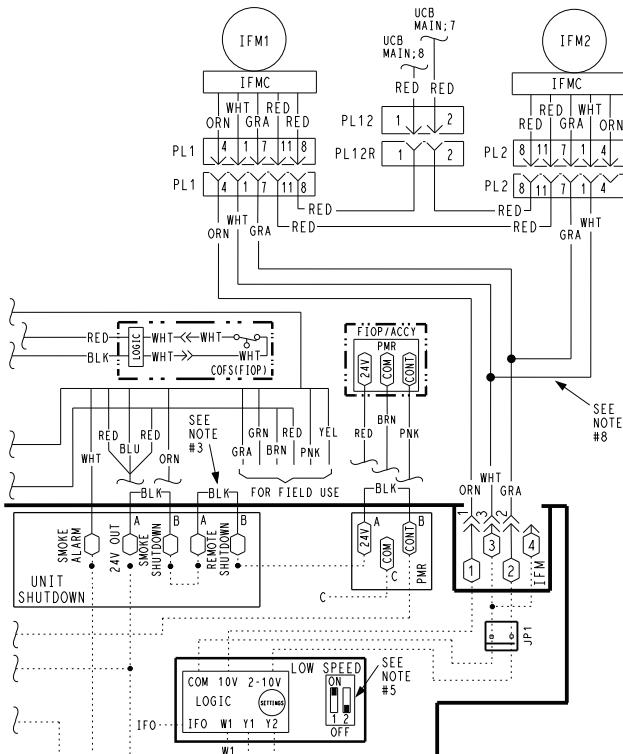

Fig. 11 – Supply Fan Control Wiring Diagram
8. Check for proper motor control voltage signal of 9.7 vdc to 10.3 vdc at IFM-1 and IFM-3 on Unit Control Board (UCB). See Fig. 11.